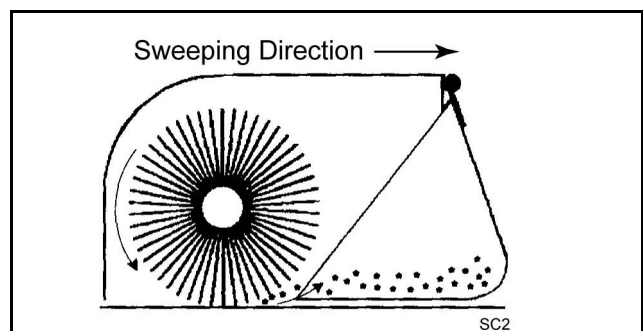

Figure 7. Reverse Sweeping Motion
5. When sweeping forward, rotate the brush so debris goes over the brush and into the bucket (Figure 7).